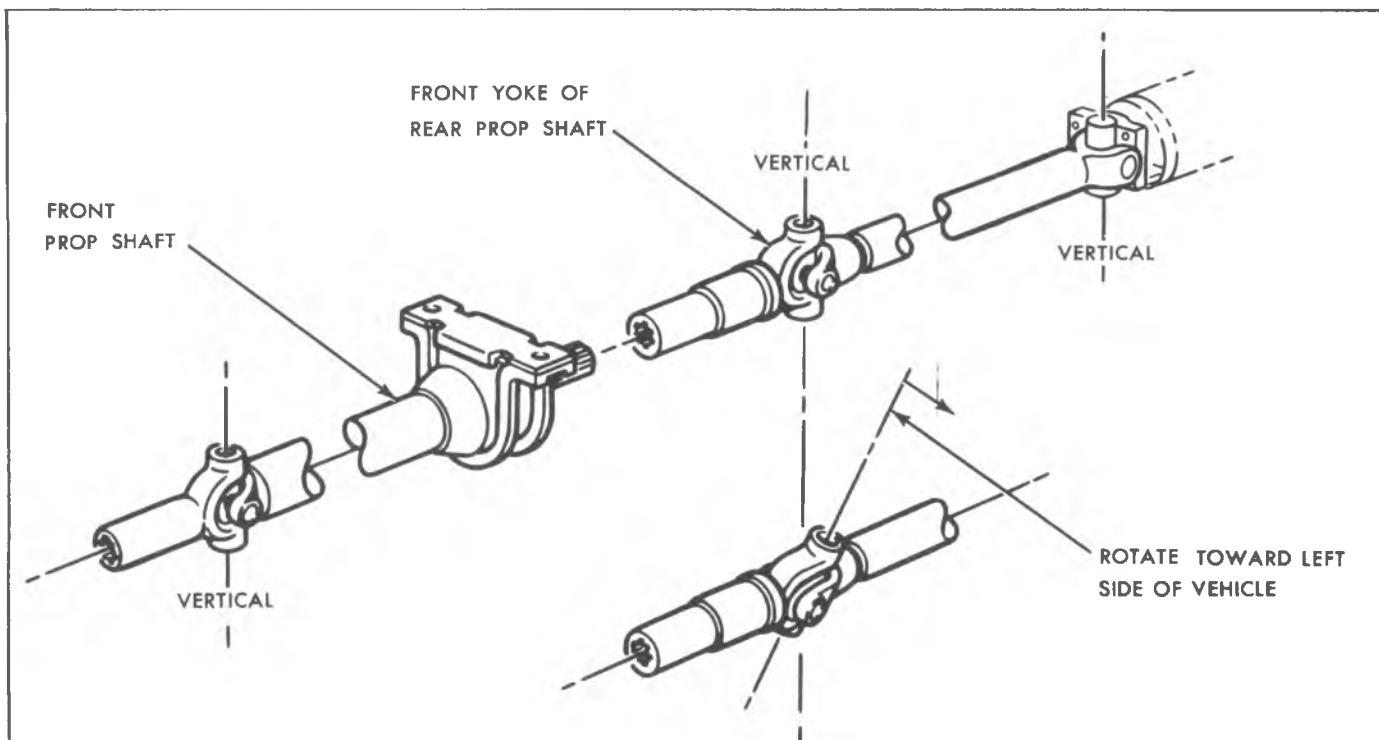

Fig. 29—Aligning U-Joints—G-P Models
- b. Rotate shaft so front U-joint trunnion is in a vertical position. See figure 29.